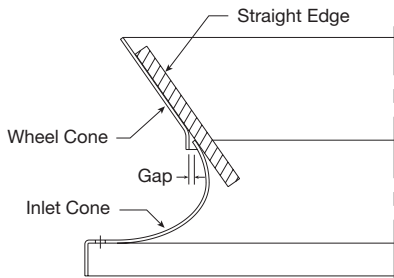

Figure 1
1. Rotate the fan wheel by hand and assure no parts are rubbing. The wheel should rotate freely and be aligned as shown in Figure 1. Wheel position is preset and the unit is tested at the factory.
Alignment - If necessary, adjust wheel position by loosening the wheel hub (see Tapered Bushing Installation and Removal on page 9) from the motor shaft so that a straight edge held tight to the wheel cone just touches the inlet cone. Refer to Figure 1.